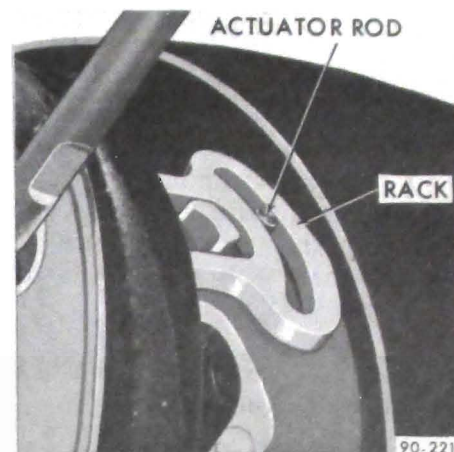

Figure 90-149 - Installing Bearing Housing
17. Assemble bearing housing over steering shaft and engage rack over end of actuator rod. See Figure 90-149.